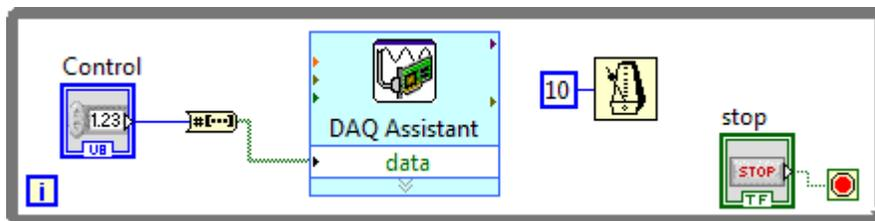

Figure 2.3 Numeric control of all LEDs
- Wire the number to the conversion, and the conversion to the DAQ Assistant (figure 2.3).